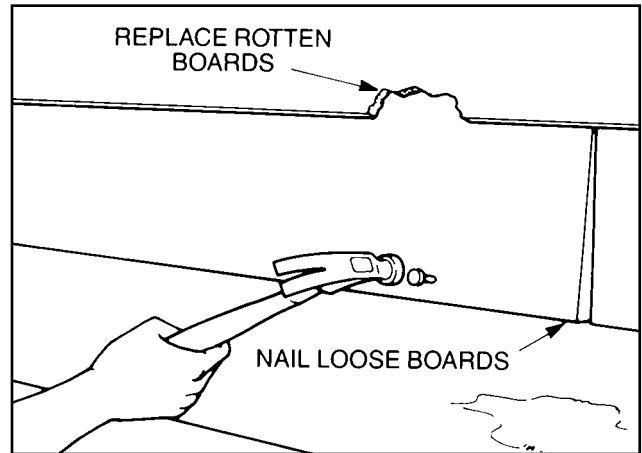

Fig 3.1
- A. Nail down loose boards and replace any rotten ones (Fig. 3.1).